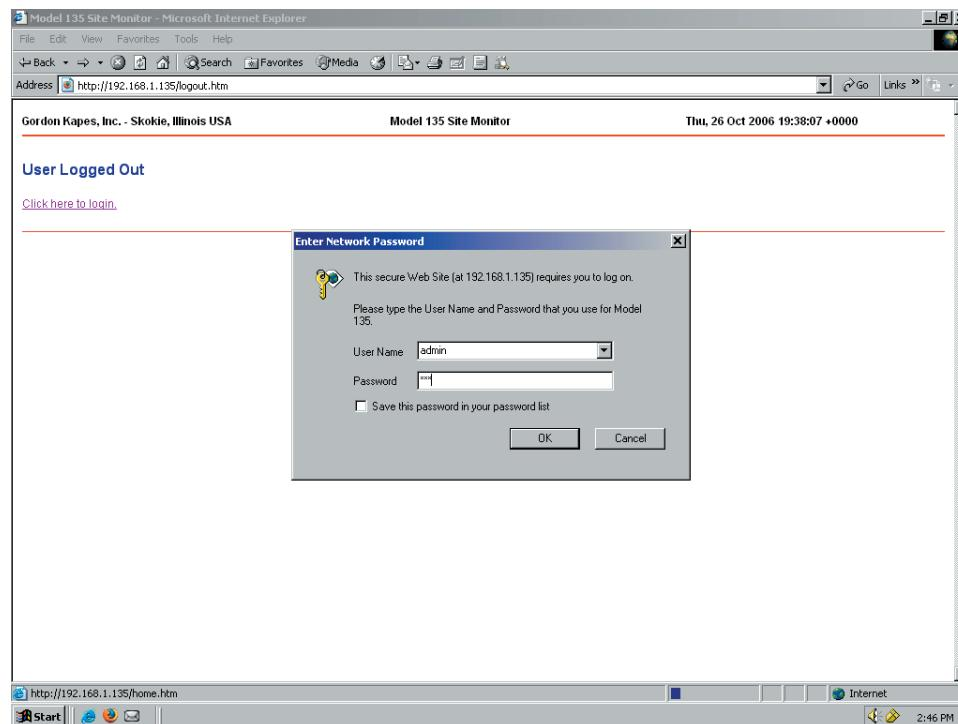
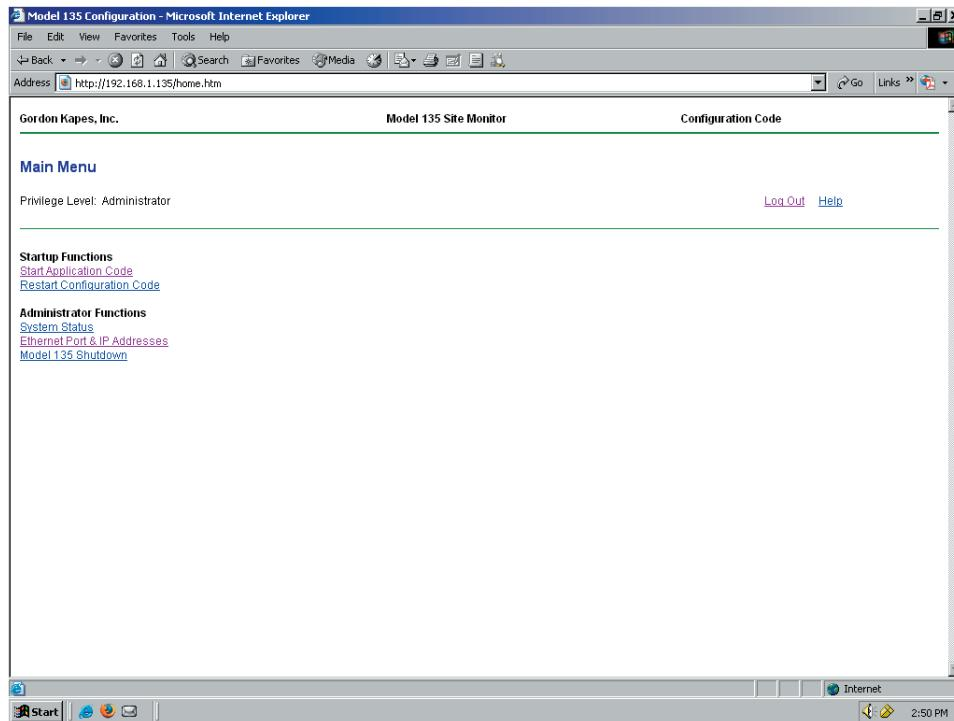
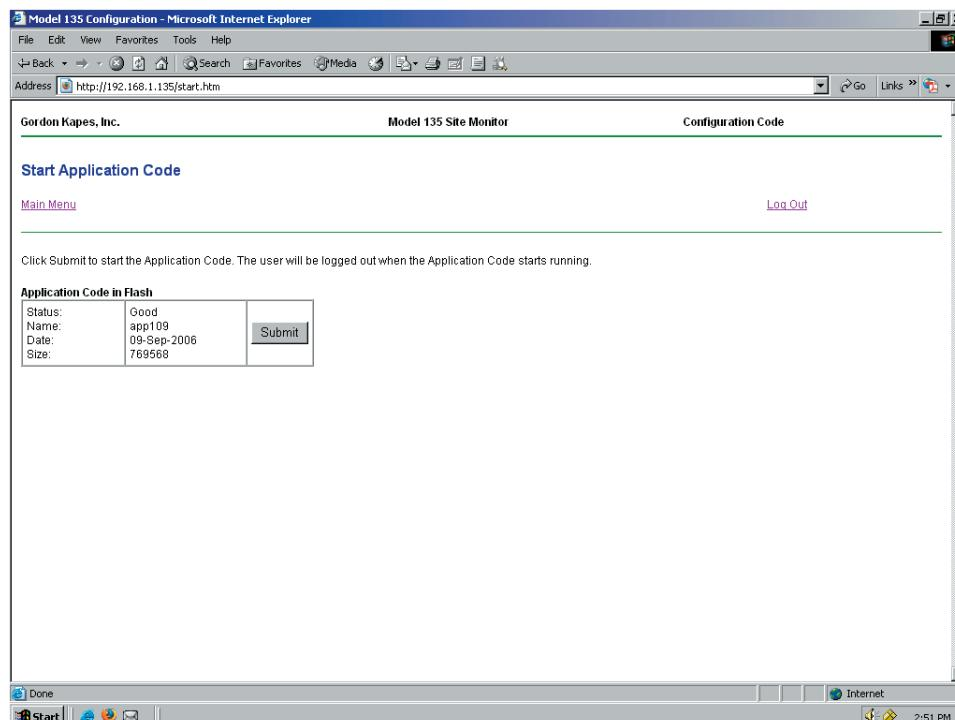
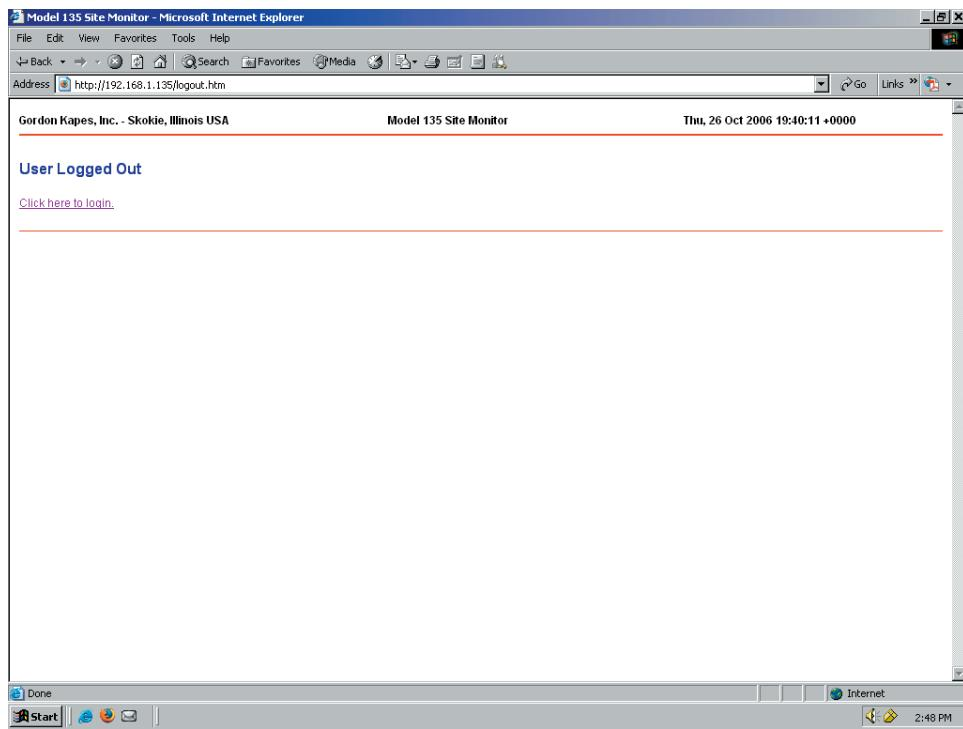

Figure 4-5. Model 135 Enter Network Password Screen
Figure 4-6. Model 135 Configuration Code Main Menu Screen
Figure 4-8. Model 135 Start Application Code Screen
Figure 4-9. Model 135 User Logged Out Screen
Step 3. Select/click “Click here to login.” Enter/type the default User Name of **admin** and the default Password of **135** (Figure 4-5). Select/click OK. A special Configuration Code program will start (Figure 4-6).
Step 6: Select/click the Main Menu link from the Configuration Code program. Then select/click Start Application Code under the Startup Functions column (Figure 4-6). A Start Application Code screen will be displayed (Figure 4-8). Select/click Submit. This action will shutdown the Model 135 Configuration Program and bring you to the User Logged Out screen (Figure 4-9).